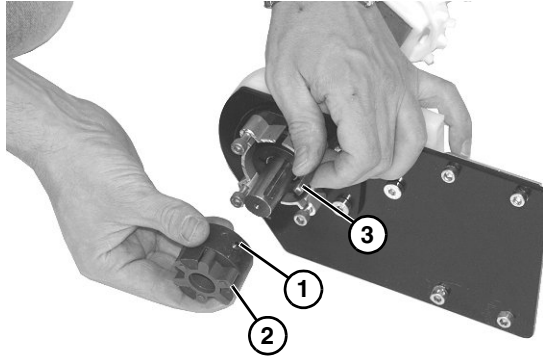

Figure 33
4. Loosen set screw (**Figure 33, item 1**) and remove coupling (**Figure 33, item 2**).
5. Remove key (**Figure 33, item 3**).